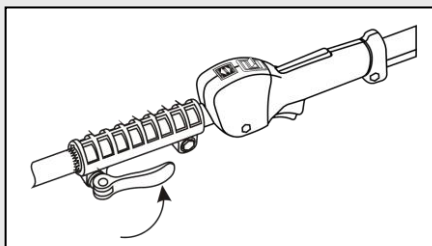

Fig. 2
3. When the trimmer attachment shaft is fully inserted into the locking collar, push the locking lever back toward the locking collar to lock the assembly together (Fig 2).